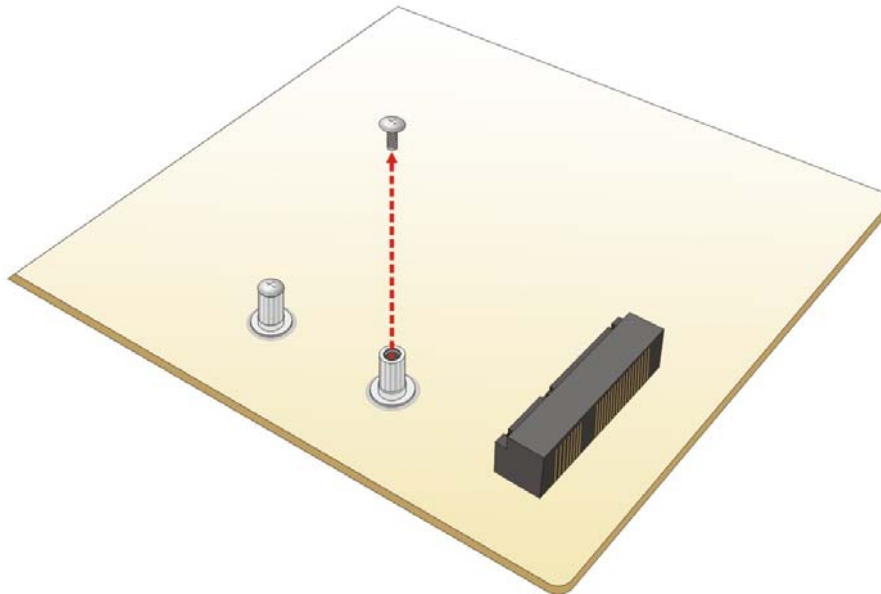

Figure 4-11: Removing the Retention Screw
Step 2: Remove the retention screw. Remove the retention screw as shown in Figure 4-11.